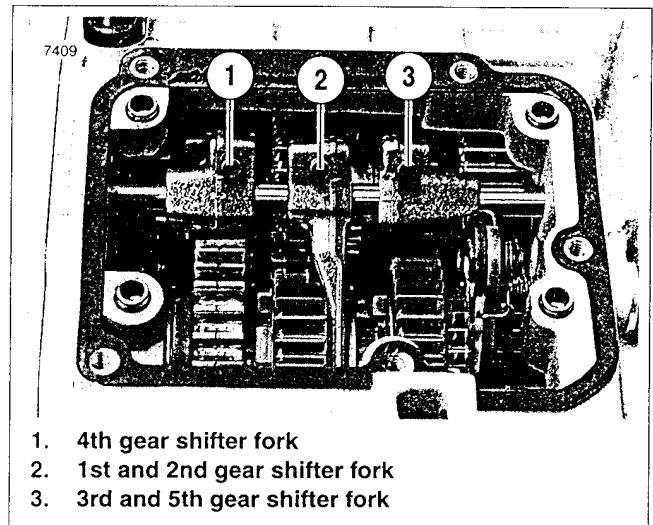

Figure 7-16. Fork Position In Transmission
2. See Figure 7-16. Insert shifter fork (1) into the slot of the mainshaft 1st gear. Insert shifter fork (2) into the slot of the countershaft 3rd gear and insert shifter fork (3) into the slot of the mainshaft 2nd gear.